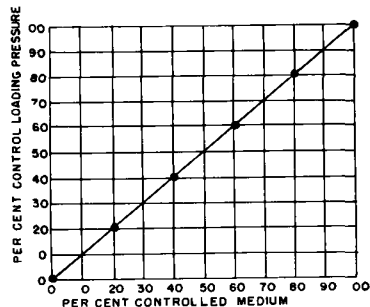

FIGURE 9 Desired Control
- 2 Decide upon the exact controlled medium vs control loading pressure characteristic desired (see Figure 9)